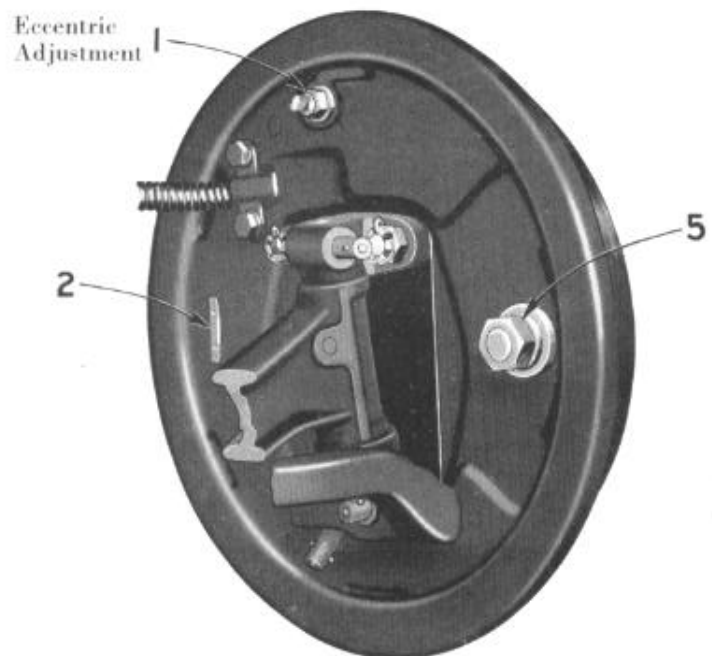

Fig. 1 Left Front Brake
The Eccentric Adjustment (Fig. 1). (This adjustment centralizes brake shoes in the brake drum.)
4. Remove adjusting hole covers (2) (Fig. 1) and inspection hole covers on the brake drums. Loosen eccentric lock nut on the eccentric adjustment and insert .014 inch feeler gauge between the lining and brake drum as indicated in (Fig. 3) at about 1-1/2 inches from the adjusting screw end of the top shoe lining. Turn the eccentric in the direction the wheel revolves when the car is moving forward until the feeler is snug.
5. Loosen the anchor pin nut (5) (Fig. 1) one turn and tap anchor pin slightly in necessary direction with a soft hammer, and adjust the eccentric to give the specified clearances of .014 of an inch at the adjusting screw end and .008 of an inch at the anchor end of the shoe.